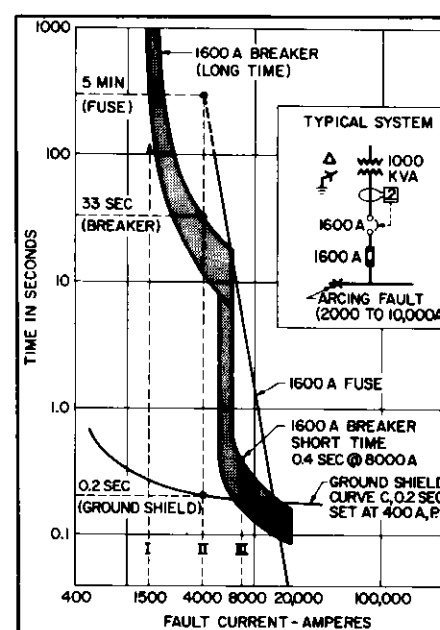

Figure 17—Ground-Shield System
The basic need for ground-fault protection in low-voltage systems is illustrated in Figure 17. Shown is a 1000 kVA service transformer with a 1600-ampere main breaker (with typical long-time and short-time characteristics) and fuse. A 1500A ground fault (Point I) on the 480Y/277 grounded neutral system would not be detected by this breaker. A 4000A ground fault (Point II) could persist for about 33 seconds even if the
minimum long-time band were used. An 8,000 ampere ground fault (Point III) would be cleared within about .2 to .4 seconds by the short-time device, assuming it is present, otherwise, between 8 to 20 seconds would elapse before the fault cleared. For the assumed 8,000A fault, even though the current values are the calculated result using all source, circuit and arc impedances, the actual RMS current values passing through the circuit breaker can be considerably lower. This because of the spasmodic nature of the fault caused by (1) elongating blow-out effects, (2) physical flexing of cables at some bus structures due to mechanical stresses, (3) self-clearing attempts and arc re-ignition, and (4) shifting of the terminals from point to point on the grounded enclosure (as well as on the faulted conductors for non-insulated construction). All of these effects tend to reduce the RMS value fault currents. Figure 17 also illustrates that a ground fault which would normally produce 8,000A under stabilized conditions and which results in an effective value of only 4000 (Point II) would have a max. clearing time of 33 seconds instead of the normally expected max. of .4 seconds.
Other fault interrupting devices such as fuses (Note from Figure 17 that a 1600A fuse takes 5 minutes to clear a 4000 fault) which have far slower operating times as low fault currents, have even a greater need for supplementary ground fault protection. Most of these devices have time-current characteristics which delay tripping for about 100 seconds for fault currents 200% to 300% of normal continuous-current rating.